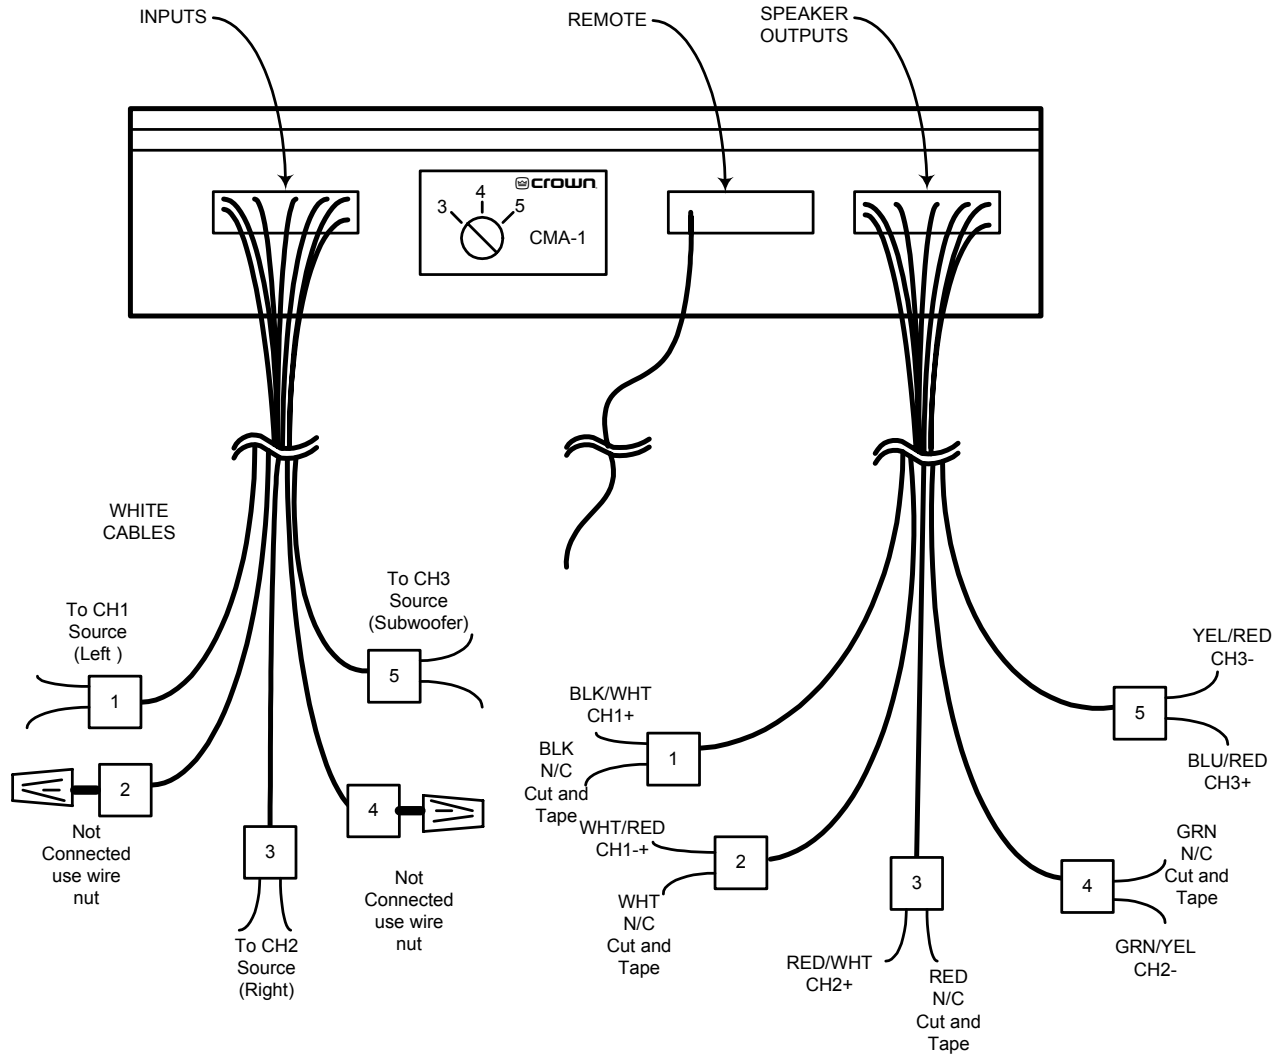

Fig. 9 3-Channel Connections
1. Refer to **Figure 9** for the following connections:
3. Refer to **Figure 9**. Connect the speakers as follows. Route the CMA-1 colored output cables separate from its white input cables to prevent oscillations. Using crimp terminals, connect the CMA-1 colored cables to the speaker terminals, taking care to observe the cables colors and polarities noted below: